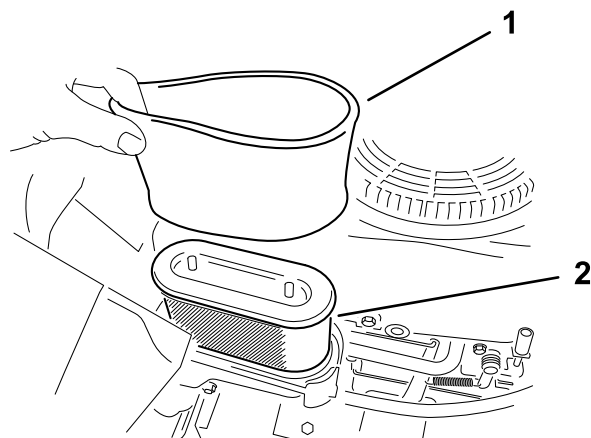

Figure 31
**Note:** If it is very dirty, replace the paper element (Figure 31).
5. Carefully remove the foam and paper filter elements from the air-cleaner housing (Figure 31).
1. Install the foam filter onto the paper filter (Figure 31).